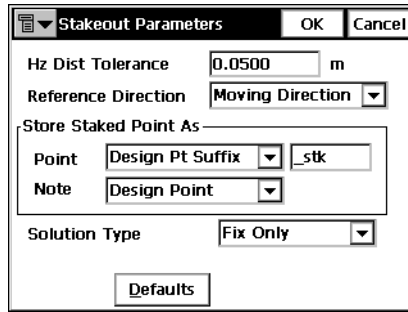

Figure 7-3. Stakeout Parameters - GPS+ mode
2. For GPS+: on the *Stakeout Parameters* screen, specify the Stakeout parameters: horizontal distance tolerance and reference direction. Specify how the staked point name and Note should be formed and select the Solution Type value. To return to default values, tap the **Defaults** button. Then tap **OK** (Figure 7-3).